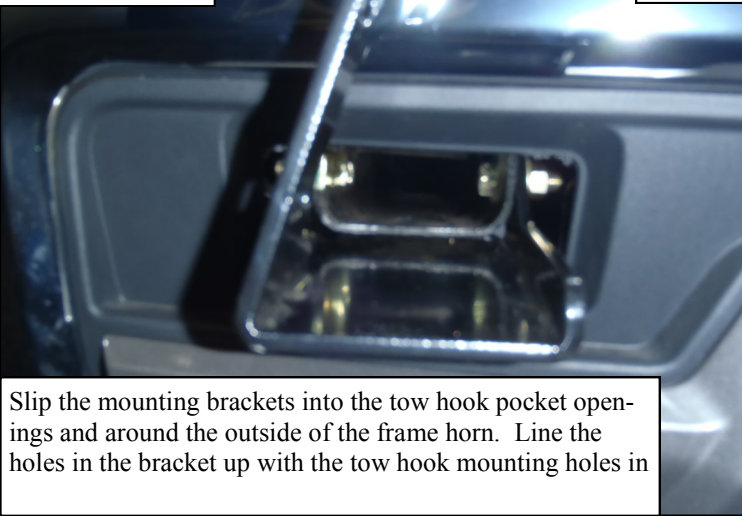

Fig. 9
7. Select the Mounting Brackets. Insert the Bracket through the opening in the plastic bumper, (Figure 9). Line up the (3) holes in the Bracket with the holes in the end of the frame channel.